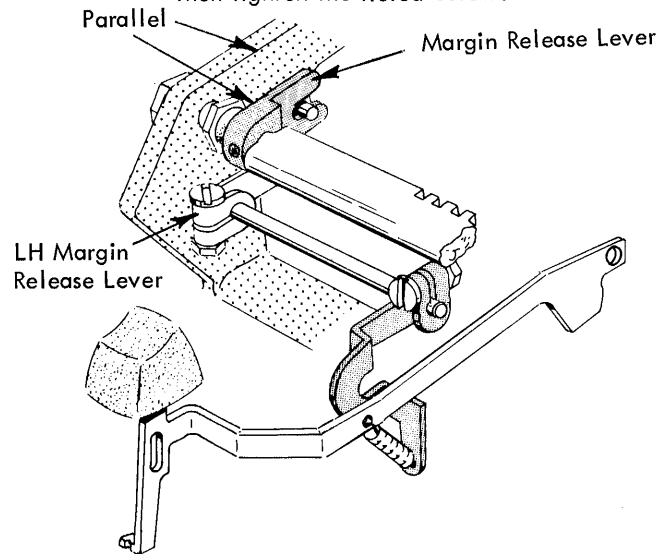

FIGURE 248. Margin Release Mechanism (15 Inch - Early)
1. With the margin release keylever at rest, loosen the left hand margin release lever and adjust it radially about its shaft so that the top surface of the margin release lever (Fig. 248) is parallel with the slope of the sideframe. The lever should also be positioned laterally on its shaft so that it operates freely without restricting the margin rack motion when the rack is pushed to the left into its overbank position.
2. With the margin release keylever at rest, loosen the fluted screw in the margin release lever and rotate the margin rack (within the release lever) to a level position (Fig. 248). Then tighten the fluted screw.